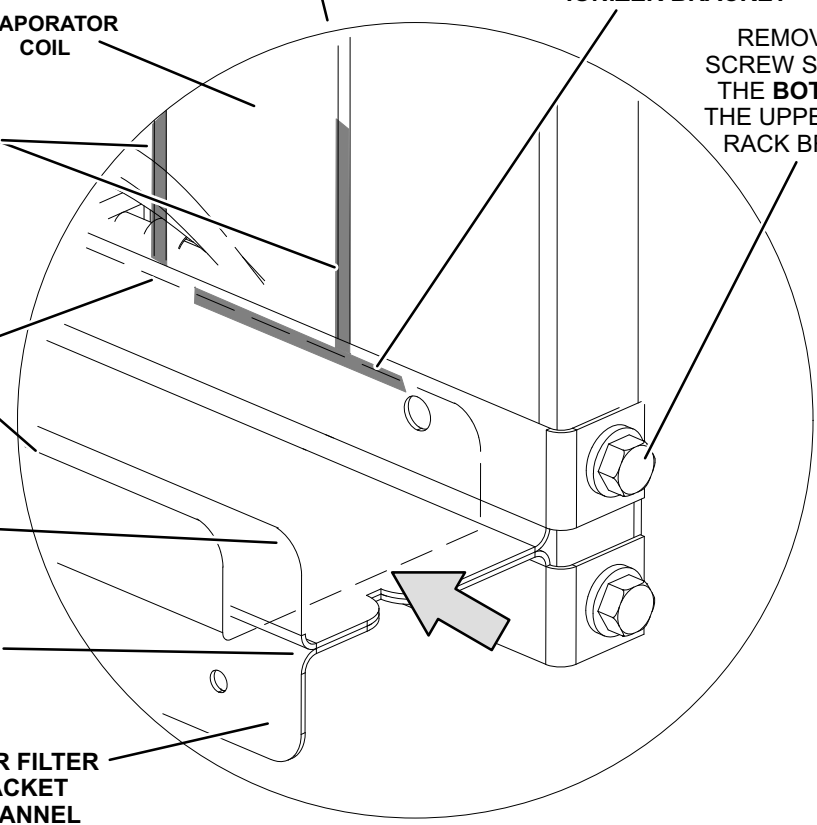

FIGURE 44
The optional, brush-type ionizer produces positive and negative ions to clean air and reduce airborne contaminants. The ionizer was designed to be low maintenance. The device should be checked semi-annually to confirm the brushes are clean for maximum output. The ionizer is located behind the filters. See figure 44.
- 1- Remove filters, screws securing the top and bottom of the upper filter bracket, and the wire ties the screws hold in place. See figure 44.